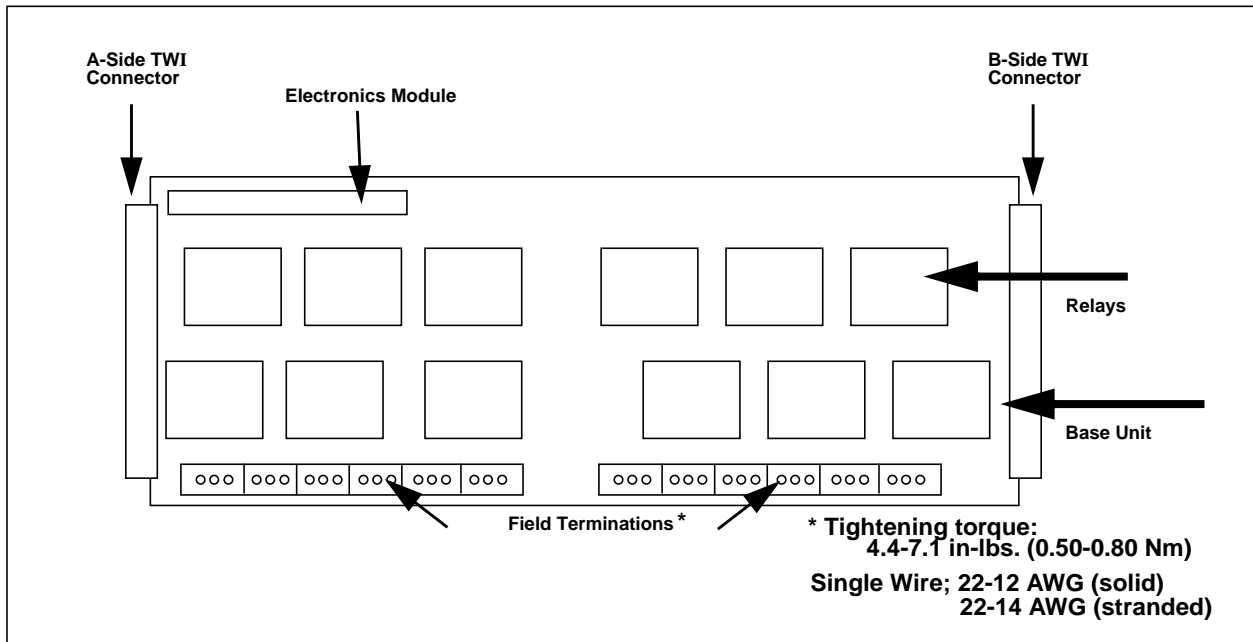
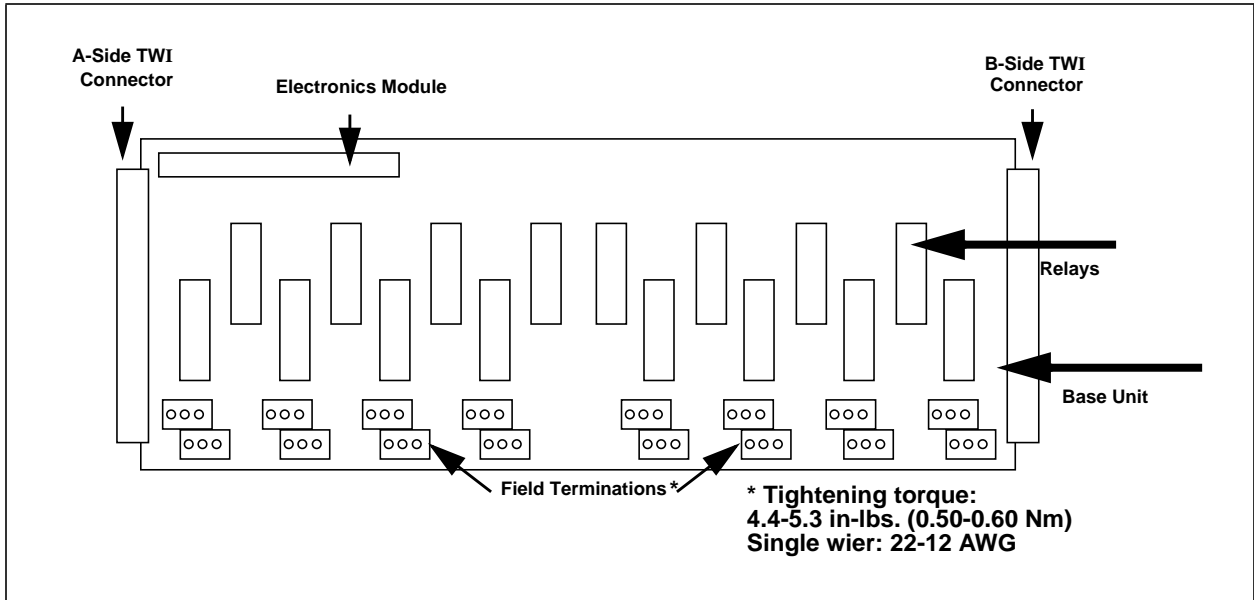

Figure 26-6. Relay Output Module (12 KUEP Style Relays)
Figure 26-7. Relay Output Module (16 G2R Style Relays)
- Relay Output Module and Bases - Relay module base, 1.5 times larger than a standard I/O base unit, containing electronics module and relays to control field devices (refer to Figure 26-6 and Figure 26-7).